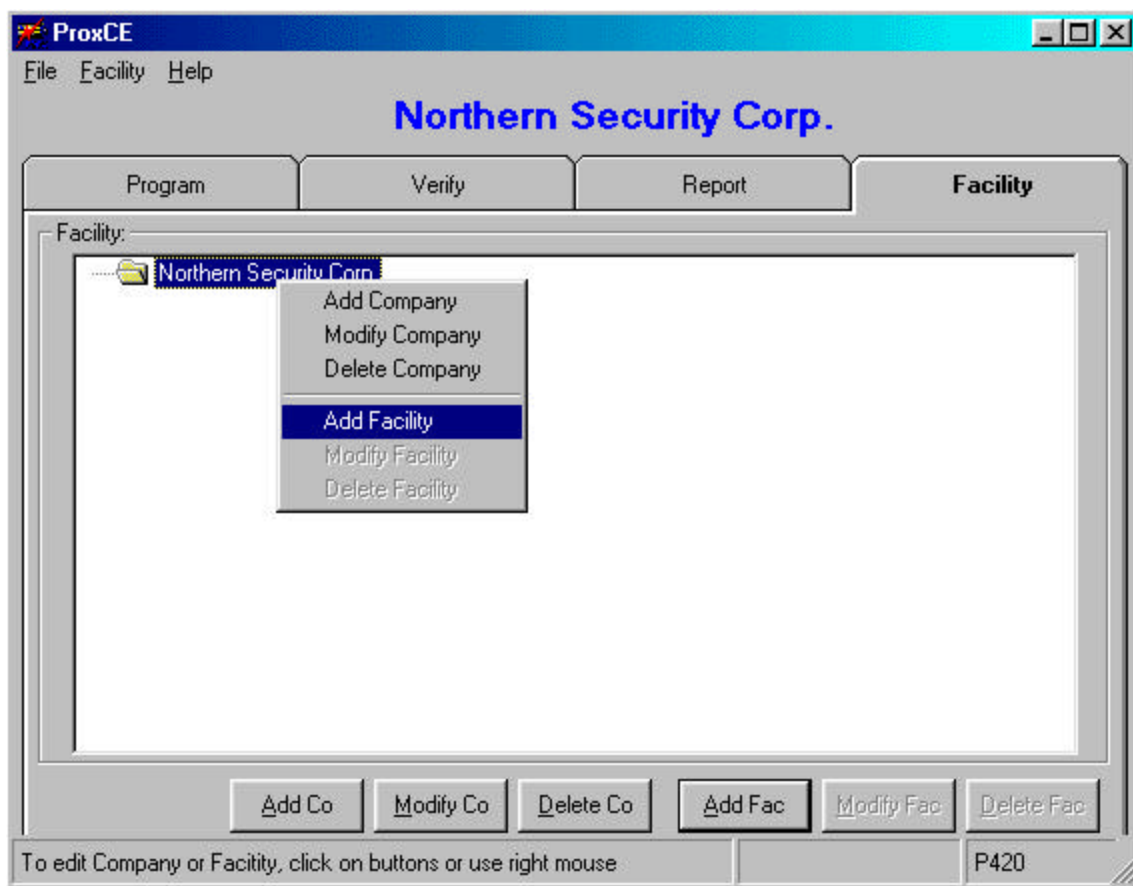

Figure 4 Edit Company & Facility record
- Then choose your option from the popup menu (figure 4) or you may also click on any of the Facility Main Menu buttons: Add, modify, or delete